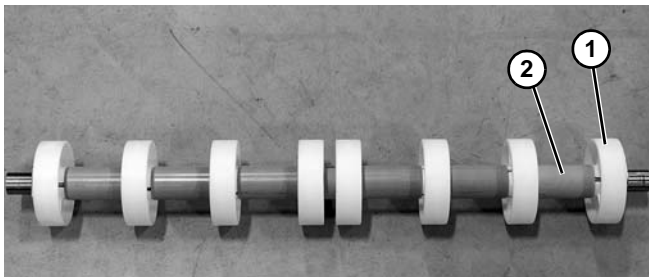

Figure 123
7. Remove pucks (**Figure 123, item 1**) and spacers (**Figure 123, item 2**) from the shaft. Repeat as needed.